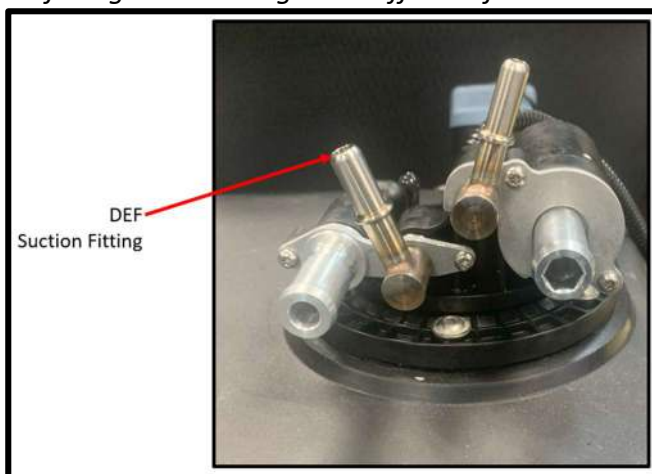

Figure 2.13 DEF suction Fitting Location
10) Install a DEF suction hose to the DEF suction fitting (3/8" per SAE J2044) per OEM service procedure. The below **Figure 2.13** shows the suction fitting location.